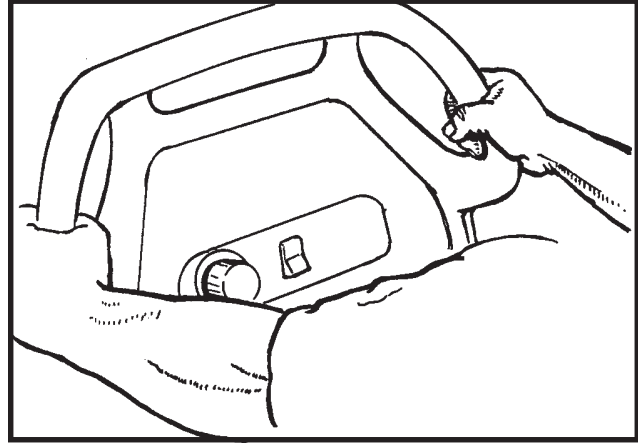

Figure 8
5. Hold the control handle as shown in figure 8.